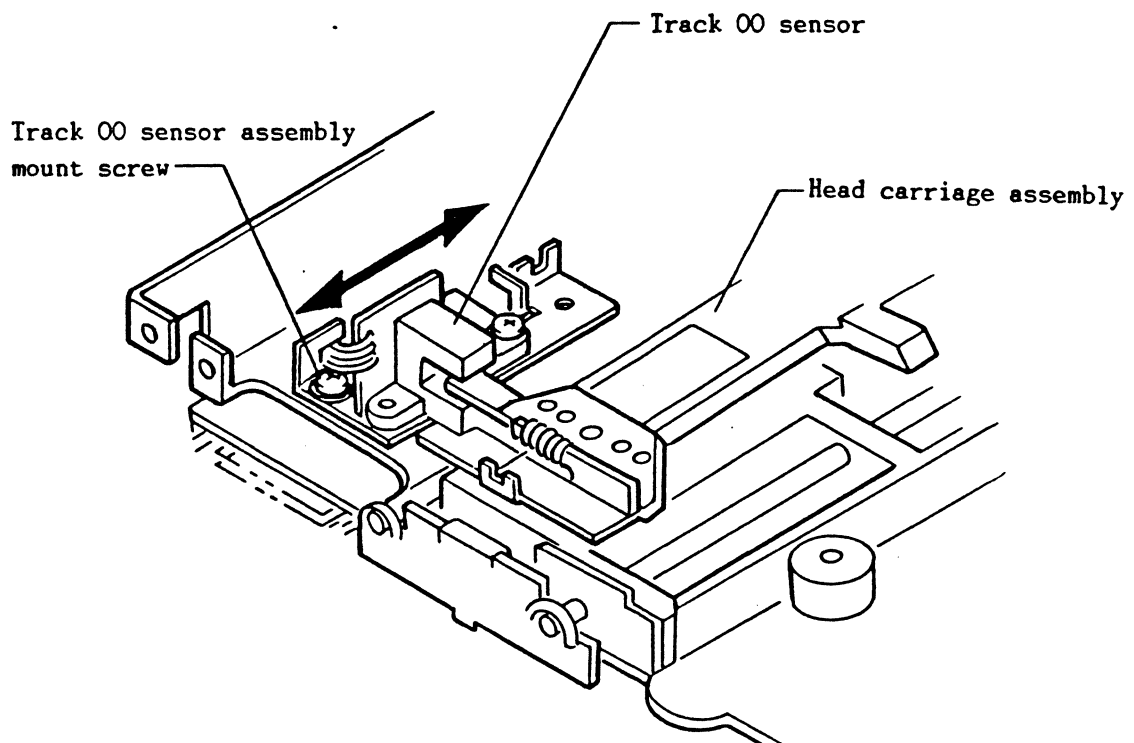

Fig. 414 Adjusting Track 00 Sensor
- (i) Shift the head to track 02, loosen the track 00 sensor mounting screw (refer to Fig.414), move the sensor backward and forward, fine adjust to near the intermediate point where the TP9 voltage changes from approximately 0.5V to 3.0V, and then tighten the mounting screw.